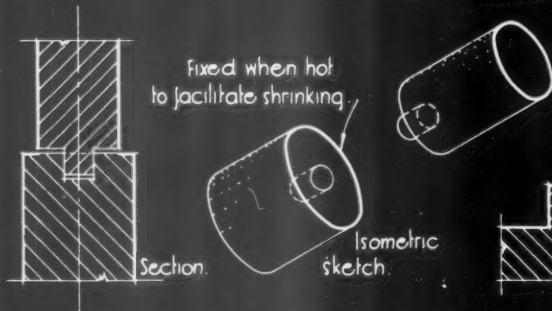

FIGURE 1 : DOWELLED CONNECTION.
1. By varying the size of the diameter in order to shrink one member on to another. Figure 1.
The first of these methods has a very limited application as only solid pieces can be provided with a dowel pin for fitting. Figure 1.